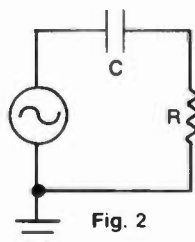

Fig. 2
4. The conditions in the series RC circuit of figure 2 are represented by which vector (phasor) diagram below?
5. In the series RC circuit in figure 2, the phase angle is the angle measured between: